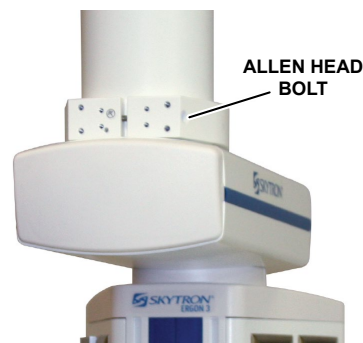

Figure 2. VST Clamp Attachment
2. Fit two halves of the clamp around the VST. Install the screws on each side, and use a 5mm Allen wrench to loosely secure the clamp. (Figure 2) so it can slide freely up and down the VST.